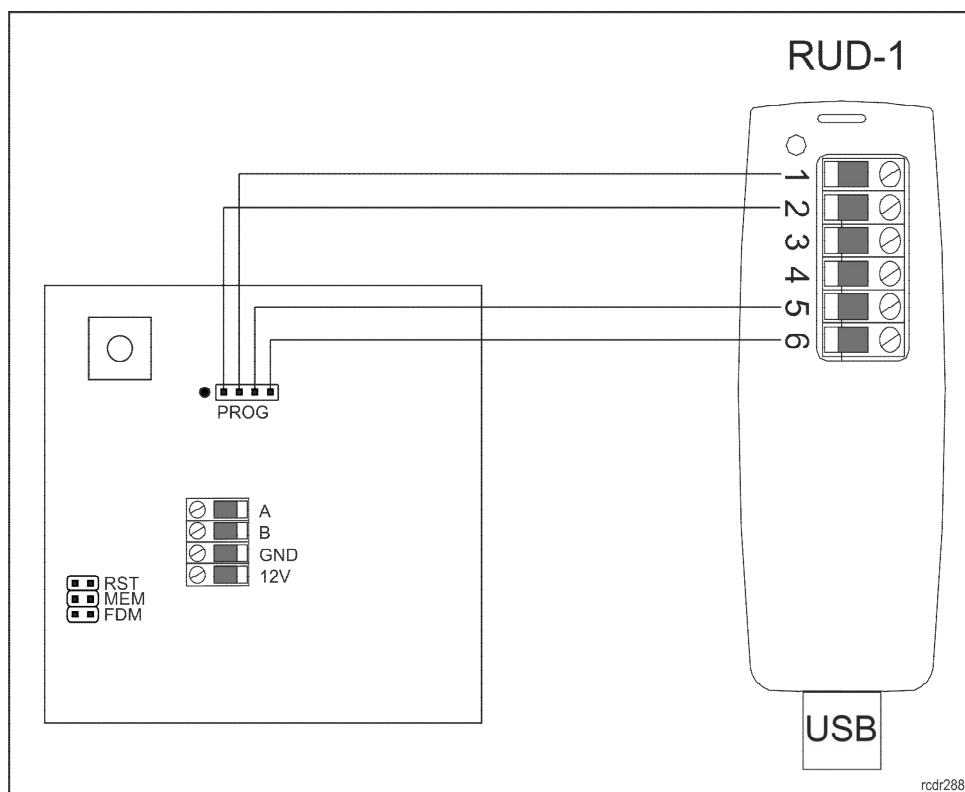

Fig. 2. Connection of RWH-1 to RUD-1 interface
- Connect RWH-1 hub to RUD-1 interface using dedicated cable with connector (fig. 2).